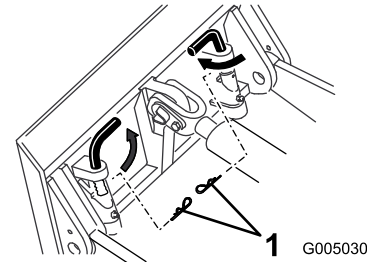

Figure 10
- Some older model traction units have holes through the spring and quick-attach pins on the mount plate (Figure 10) to allow you to install 2 hairpin cotters when plowing long runs. This ensures that the vibration of the plow does not cause the pins to come loose.